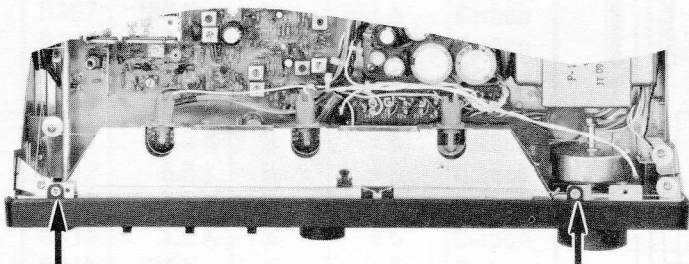

Figure C1
- c) Remove two screws each from the top and bottom of the Front Panel. (Figure C1, C2)